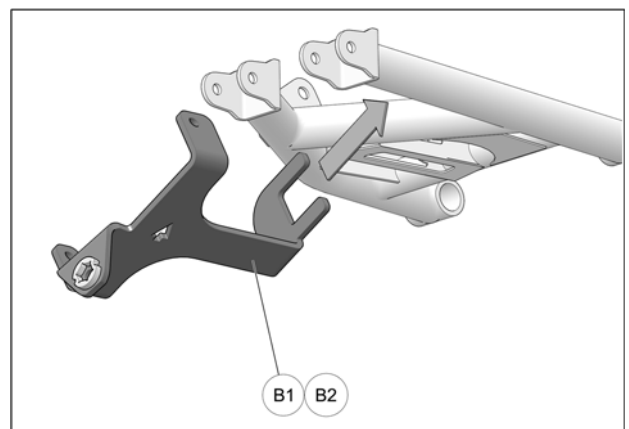

Fig. 4
5. Slide C-shaped back end of anchor bracket (B1-B2) on lower suspension arm. See Fig. 4